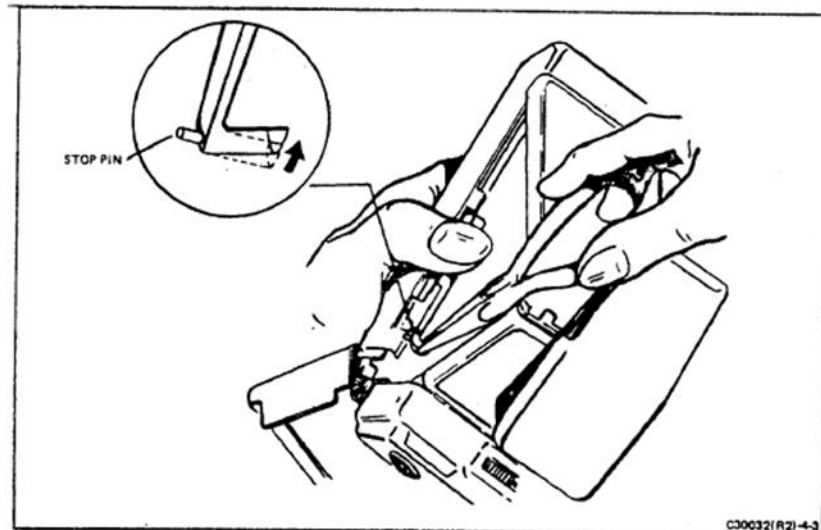

FIGURE 4-3 BENDING THE STOP LATCH
- With the latch depressed, use needle-nose pliers to bend the knife edge of the latch inboard (away from the front cover) slightly less than 90° , as shown in Figure 4-3.
- Observe that the stop pin (see Figure 4-3) is not resting on the outer plate when the front cover is closed. When resting on the outer plate, the latch/front cover closing system will loosen from wear in a short time. Make the following observation: